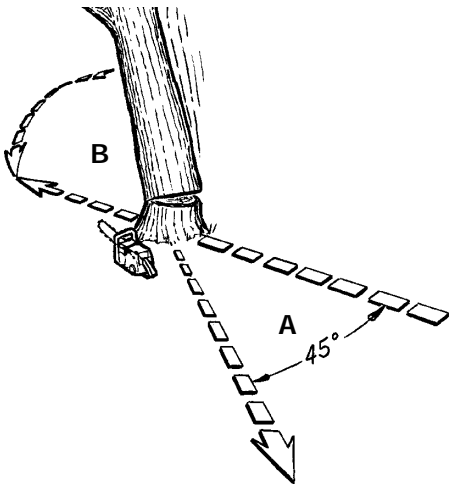

Fig. 8
WARNING: A retreat path (A) should be planned and cleared as necessary before cuts are started. The retreat path should extend back and diagonally to the rear of the expected line of fall, as illustrated in Fig. 8.
WARNING: As the felling cut gets close to the hinge, the tree should begin to fall. When tree begins to fall, remove saw from cut, stop motor, put chain saw down, and leave area along retreat path (Fig. 8).